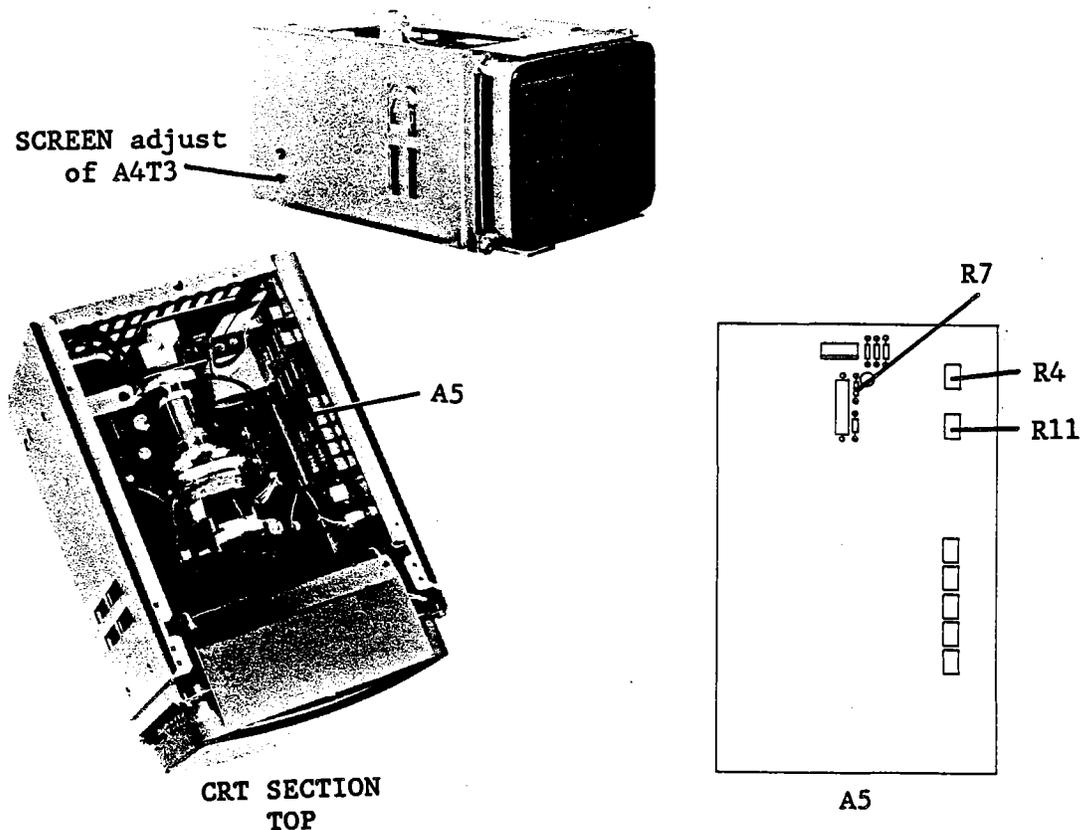

Figure 3-22. CRT Cutoff Adjustment Locations
5. Turn A4T3 (SCREEN) fully counter clockwise (CCW). See Figure 3-22 for the SCREEN adjustment location.